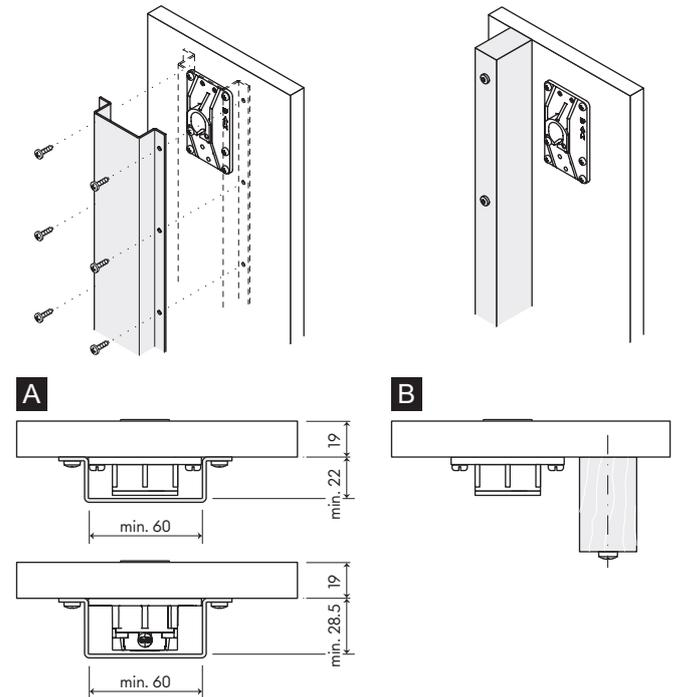

Fig. 7: Back panel reinforcement
- Angle sections (Fig. 7/A). Take note of the different heights of the holder sets (whether electrified or non-electrified).
- Wooden ribs (Fig. 7/B)